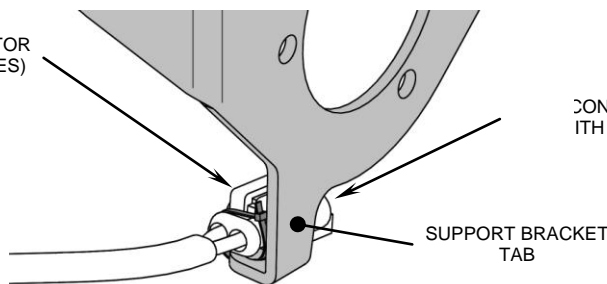

FIGURE 2
5. Place a supplied o-ring onto both supplied breather bolts. Insert the breather bolts through the support bracket openings and into the cylinder heads and lightly snug. Now snug the (3) buttonhead bolts evenly, and then fully tighten them to the throttle body. Tighten the (2) breather bolts.
7. **For 2012 Dyna models** use the supplied ziptie to secure the wire connector/cap to the support bracket tab. See Figure 2. **NOTE: Secure ziptie around the connector, DO NOT ziptie around wires.**